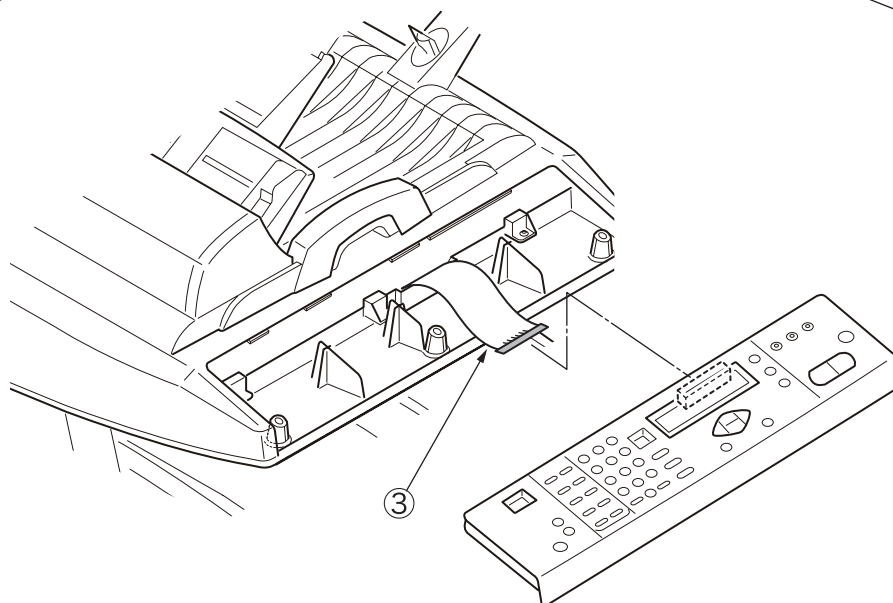

Figure 3
- (3) Disconnect the cable ③. (Figure 3)